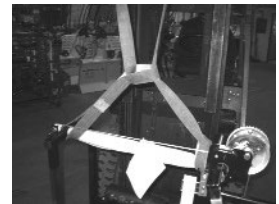

Figure 1
1. Machine needs to be lifted at the lifting point (see figure 1) for lifting points. Use a safety device for lifting to avoid any damage/injury.